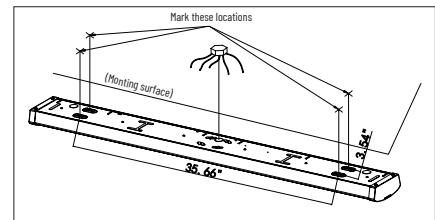

Figure 2
- i. Align knockout hole with supply wire location on the mounting location with one Hand while marking the location of the 4 keyholes slots at each end of the housing. (Figure 2)